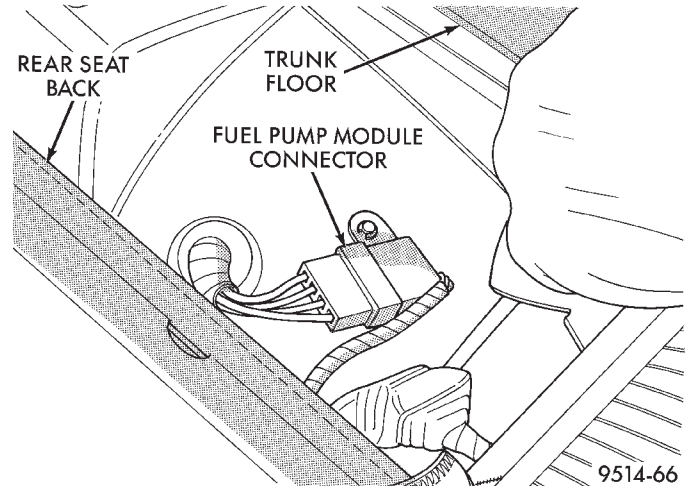

Fig. 64 Fuel Pump Module Electrical Connector
(25) Inspect the fuel pump module electrical connection in the trunk for corrosion or damage (Fig. 64).